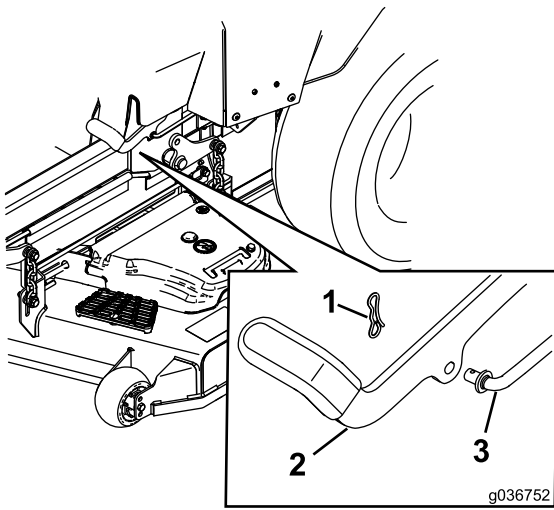

Figure 59
6. If an adjustment is necessary, disengage the parking brake. Remove the cotter pin from the brake linkage shaft (Figure 59).